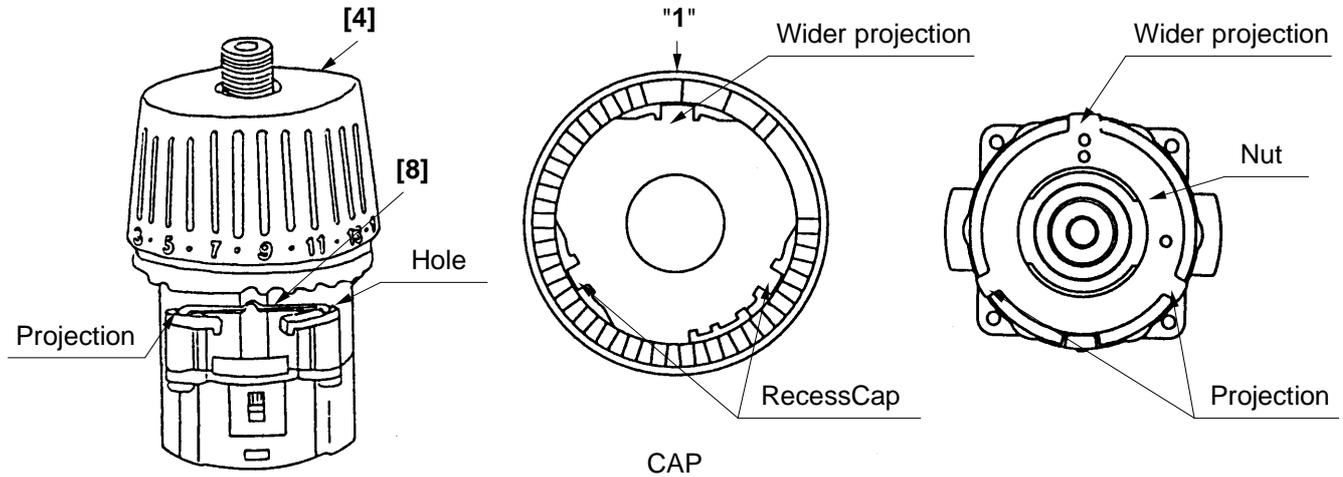

Fig. 14
- (c) Install the Click Spring [8] and Cap [4] into the assembly from step (b). (See Fig. 14)